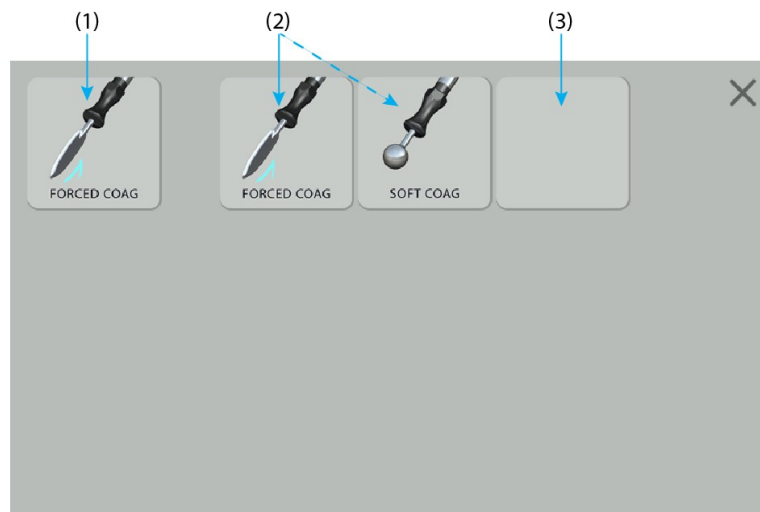

Figure 29. Operating mode selection.
After the instrument has been connected to the SDS socket the system will automatically recall the operating modes suggested for a given instrument. In order to change the mode, touch the panel corresponding to the output to which the instrument is connected. After the icon of the cutting or coagulation mode has been touched a list of all the operating modes available for the instrument will appear. Select the required operating mode and confirm the selection by touching the selected mode again (Fig. 29, item 1).
The inactive status is set by selecting an empty mode icon from the list of modes (Fig. 29, item 3). In such a case, the INACTIVE mode status appears on the control panel and it is impossible to activate a given type of mode.